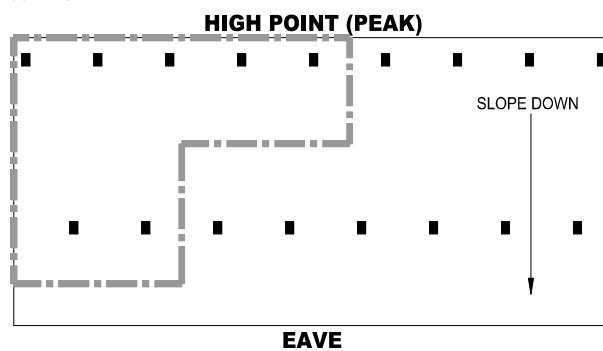

FIGURE 20C
- Calculation #2: Calculate the 7 most hydraulically contiguous DS sprinklers consisting of 5 DS at the high point (peak) and 2 DS sprinklers on the adjacent downslope branchline. See FIGURE 20C.